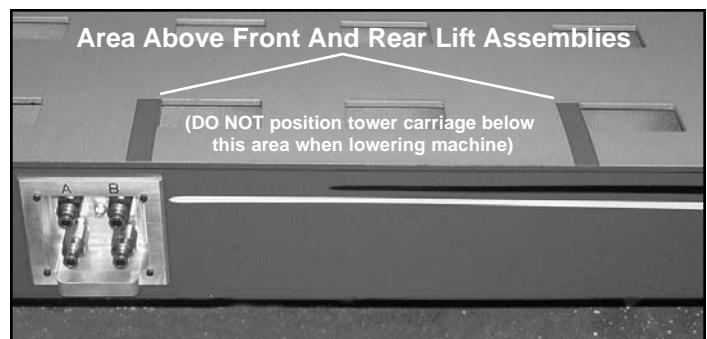

Figure 52
2. DO NOT position tower carriages below areas identified with “red” lines (see Figure 52) or they will be damaged when lowering machine to its lowest working height. The “red” lines represent the locations of the lift assemblies below the mainframe.